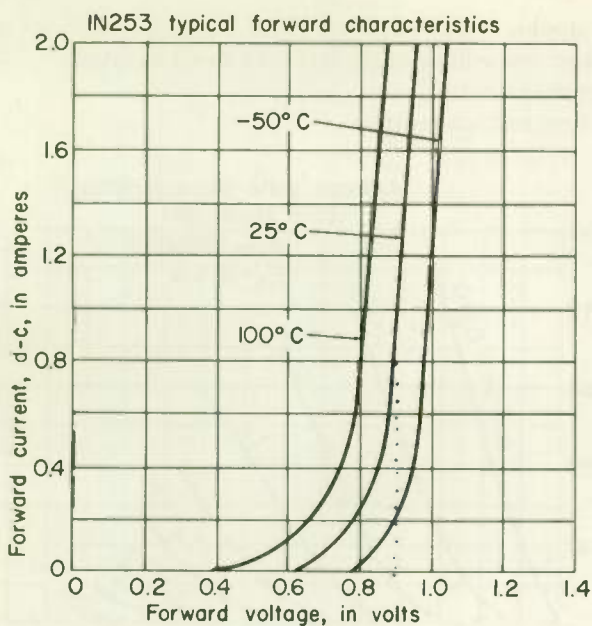

Fig. 33
14. Conducting diodes have a small voltage drop across them. This, of course, is undesirable, since it is a voltage loss to the circuit being fed through the diode. Figure 33 shows that a typical IN253 diode carrying 800 mA at an operating temperature of 25°C will have a voltage across it of
- (1) 0.8 V. (2) 0.85 V. (3) 0.97 V.
(4) 0.81 V. (5) 0.9 V.
15. Figure 33 shows that for higher diode temperatures, the conducting voltage loss across the diode is
- (1) the same as at lower temperatures.
(2) greater than at lower temperatures.
(3) less than at lower temperatures.
16. Figure 33 shows that at a temperature of 25°C the diode will not conduct if the voltage across it is less than about
- (1) 0.4 V. (2) 0.62 V. (3) 0.8 V. (4) 1.04 V.
(5) 1.3 V.
17. If you double the current through the diode of Fig. 33 (say from 0.8 A up to 1.6 A), then the voltage loss across the diode will